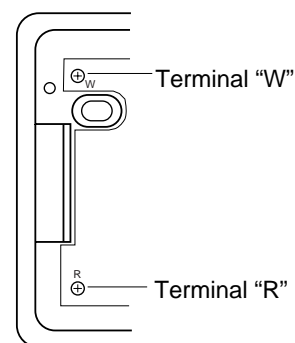

Figure 42 - Thermostat Base Terminals "W" and "R"
7. Connect one bare wire end to each terminal ("W" and "R") of the thermostat base (see Figure 42).